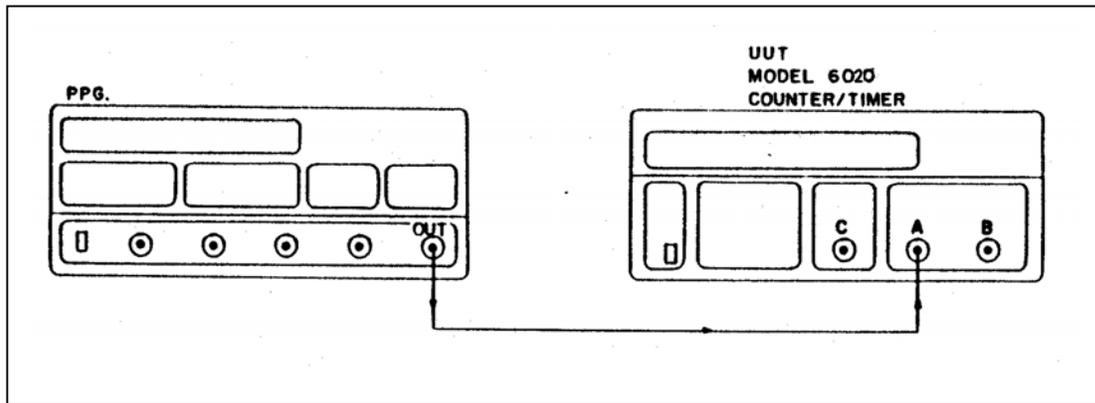

Figure 5-13. Delay Test Set-up.
1. Connect the test equipment as described in Figure 5-13.